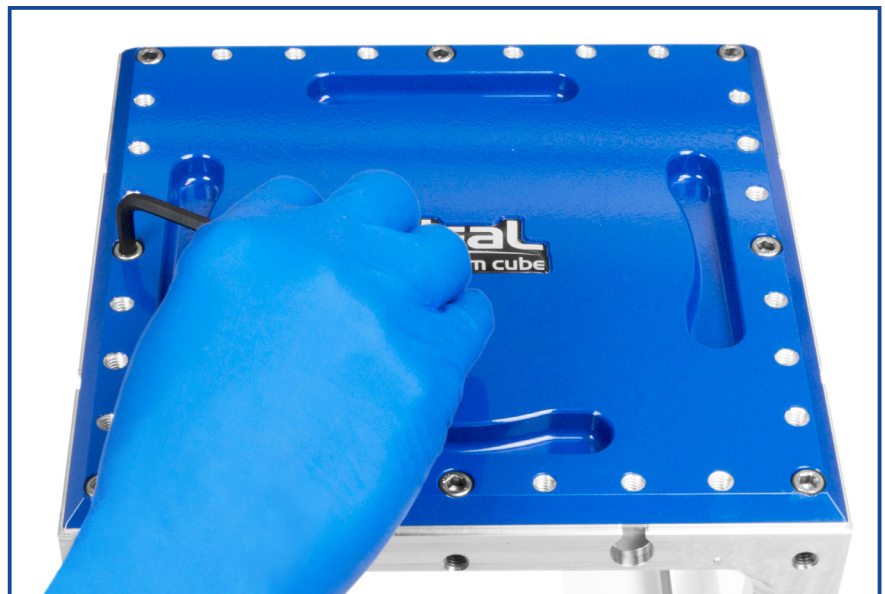

Figure 7 - Begin tightening the bolts
5. Use a 3/16" hex wrench to begin tightening the plate bolts (Figure 7).